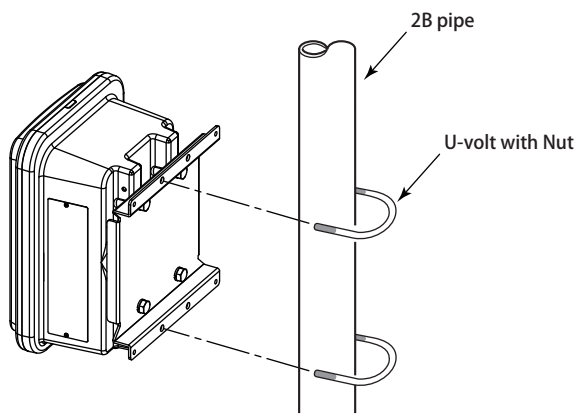

Figure 3.7 Pipe Mounting
- (1) Prepare a vertical pipe of sufficient strength (nominal JIS 50A: O.D. 60.5 mm) for mounting the converter. (Converter weighs approximately 16 kg.)
- (2) Mount the converter on the pipe. Fix it firmly on the pipe in the procedure described in Figure 3.7.